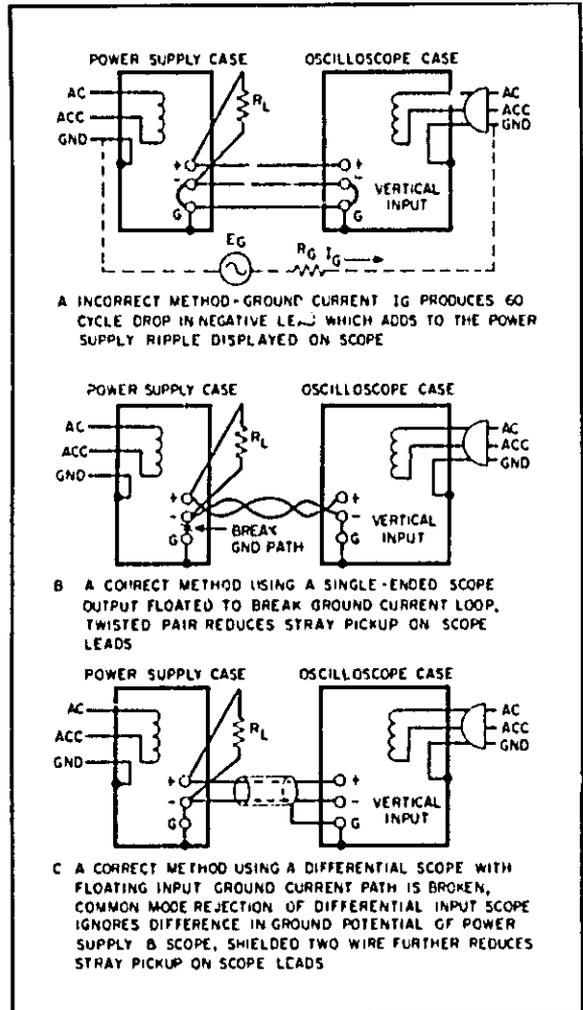

Figure 5-4. Ripple and Noise, Test Setup
**5-23** The same ground current and pickup problems can exist if an rms voltmeter is substituted in place of the oscilloscope in Figure 5-4. However, the oscilloscope display, unlike the true rms meter reading, tells the observer immediately whether the fundamental period of the signal displayed is 8.3 milliseconds (1/120 Hz) or 16.7 milliseconds (1/60 Hz). Since the fundamental ripple frequency present